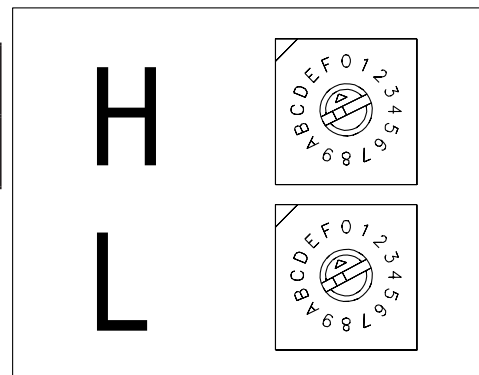

Figure 8: Address Switch Settings – Diagnostic Mode
4. Use a small flathead screwdriver to move both H and L address switches to the “F” position (**Figure 8**). This will set the scoreboard driver to Diagnostics Mode.